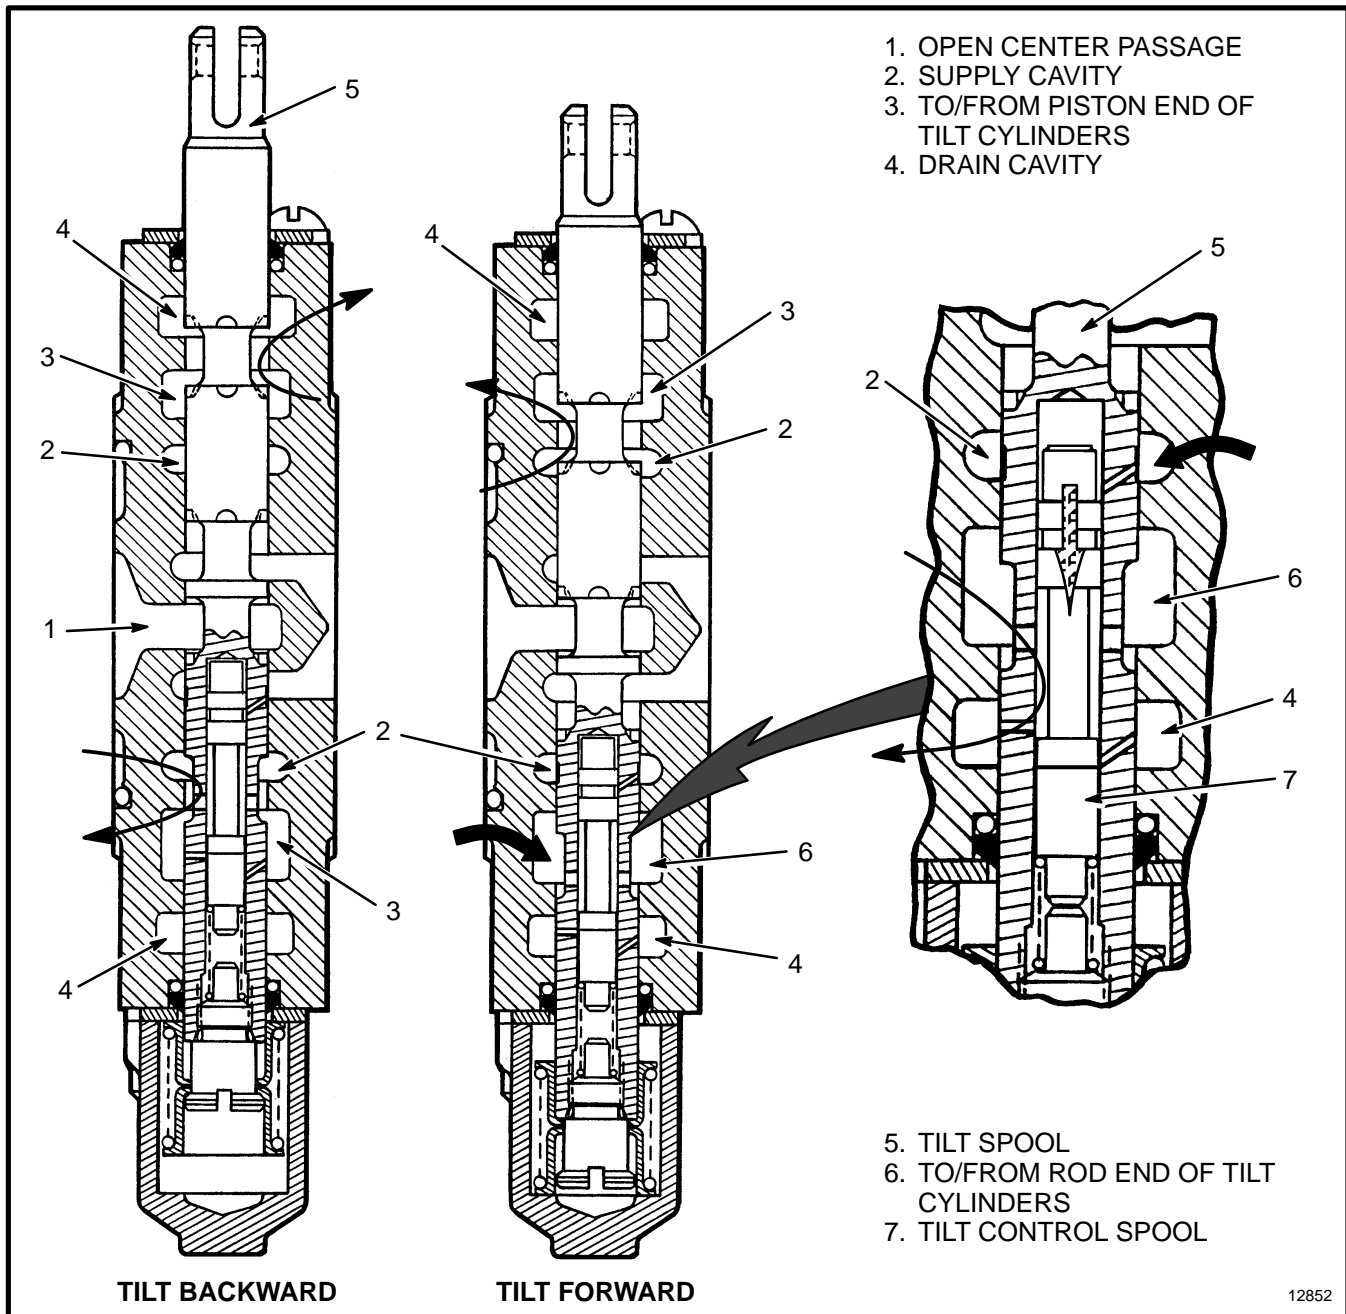

FIGURE 4. TILT SPOOL OPERATION
**TILT FORWARD (See FIGURE 4.)**